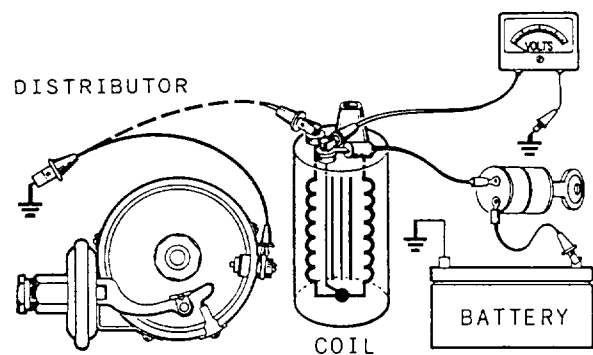

Figure 4-41.-Testing ignition primary circuit.
1. Hookup the voltmeter between the switch side of the ignition coil and a good ground. The engine must be at operating temperature, but stopped, and the distributor side of the coil grounded with a jumper wire. (See fig. 4-41.)